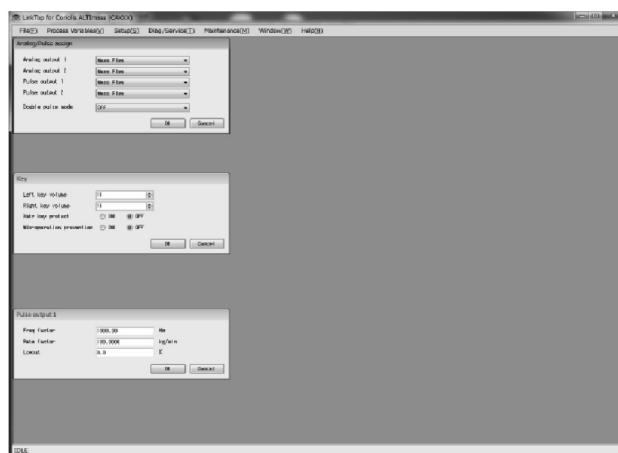

Fig.171
- ② Select "TileHorizontal" to display these windows lined up vertically, as shown in Fig. 171.